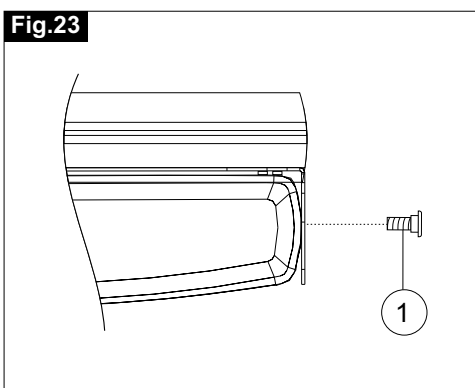

Fig.24
- 11) **Fig.24**- Adjust the opening stroke by means of the switch (**Ref.1**) located in the right side of the actuator according to the wing opening;